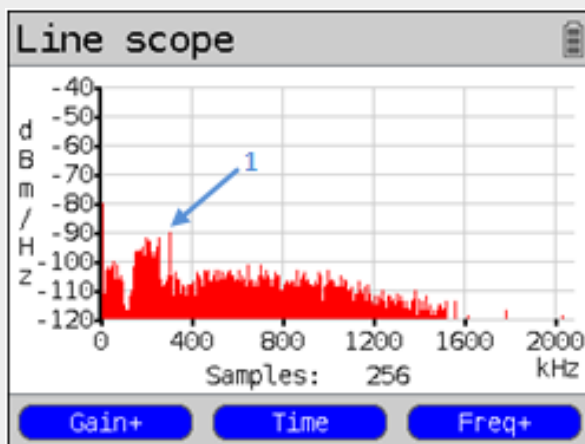

Figure 6: Analysis result with cross talk and disturbance source (1) on a neighbouring line.
Providing an even more detailed appraisal of the line behaviour, this also allows interference sources such as crosstalk on adjacent lines to be identified. If, for instance, a previously unused neighbouring line in the customer's house is to be used for the first time, it is possible to test to what extent this line has been influenced by the line already active. For this purpose, one connects the tester to the neighbouring line and compares the line scope result (see figure 6) with the already tested results of the existing line. This allows crosstalk (owing to the similar pattern) or even an interference source (runaway value in the signal (1)) at a specific frequency to be identified.